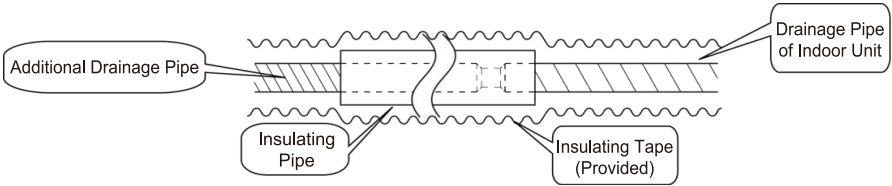

Fig 4.3.1
3. install drainage pipe according to the following fig and arrange insulation to the drainage pipe (Fig 4.3.1). Improper installation may lead to water leakage and damp the furniture and other things in the room.